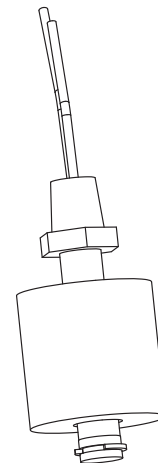

Fig. 51: Condensate Float Switch
1. Check manifold gas pressure at the gas valve outlet pressure tap (connection “D” in Fig. 51). This pressure should read per the values in Table W for natural and propane gas.